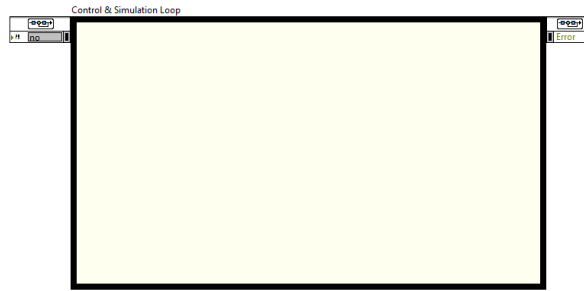

Figure 1.4: Create a Simulation Loop in the block diagram
2. Create a new, blank Virtual Instrument (VI).
3. Go to the block diagram and create a Simulation loop, as depicted in Figure 1.4. It is found in the *Control Design & Simulation | Simulation* palette.